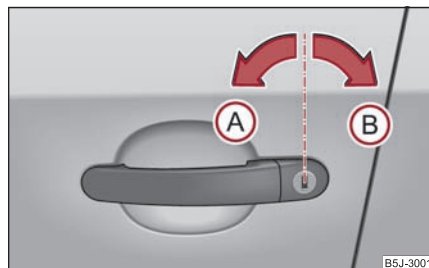

Fig. 36 Turning the key for unlocking and locking the vehicle
- Turn the key in the locking cylinder of the driver's door to the left into the opening position **(A)** ⇒ fig. 36.
- Turn the key in the locking cylinder of the driver's door to the right into the closing position **(B)** ⇒ page 40, fig. 36.